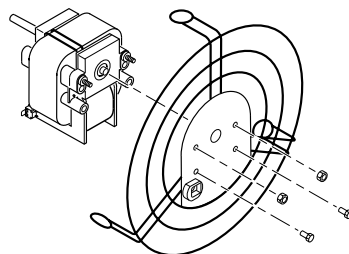

Figure 11 - Removing or Attaching Fan Guard from Motor
4. Remove two nuts and two screws that attach fan guard to motor using nut-driver. Remove fan guard from motor (see Figure 11).